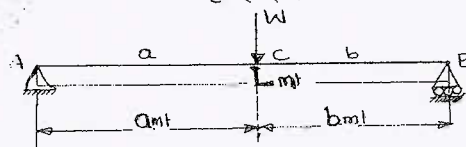

Fig.Q3(b)
b. Using Castigliano's theorem, determine the deflection at the load point for the simply supported beam shown in Fig.Q3(b). Take EI is constant.